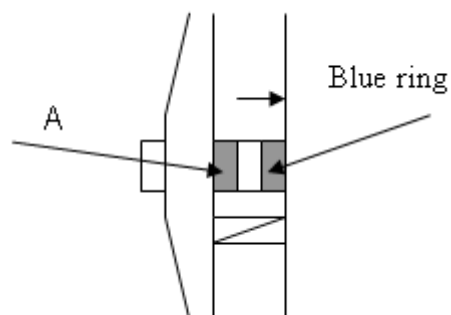

Figure 9
H. Close the door and turn the door knob clockwise and see “A parts” to touch the “Blue ring” as Figure 9.